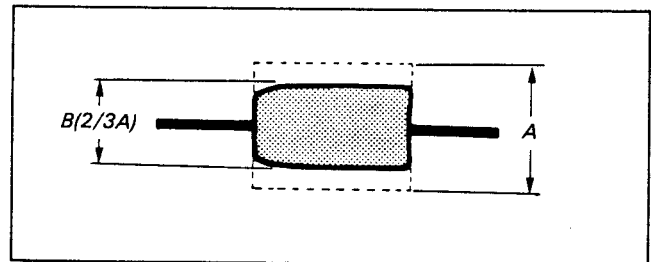

Fig. 4-8
- 4) Set the SEL switch of the track shift & monitor jig to ON, then turn the track shift knob until the RF waveform amplitude is 2/3. (Fig. 4-8)